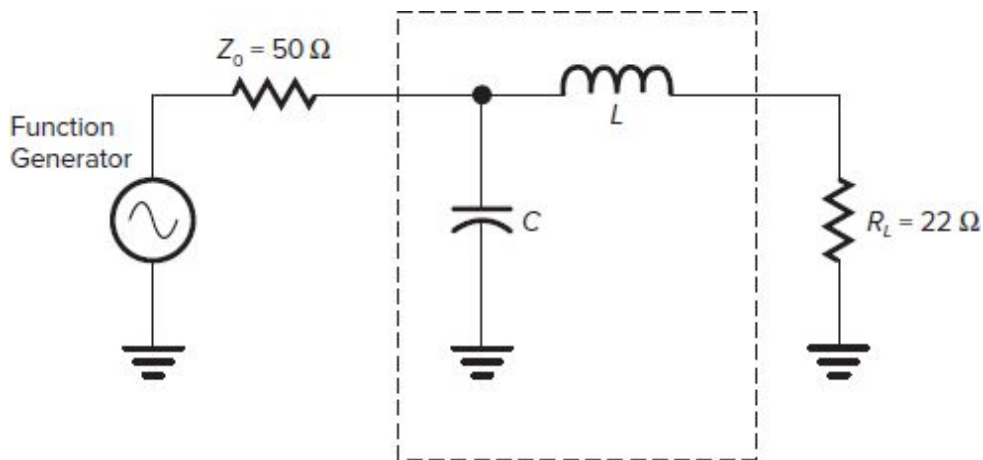

Fig. 8-10 Calculate L and C , using formulas in textbook.
4. Then build the circuit as shown in Fig. 8-10.